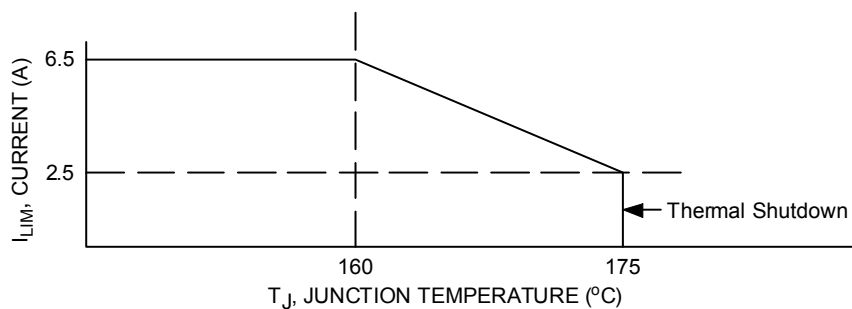
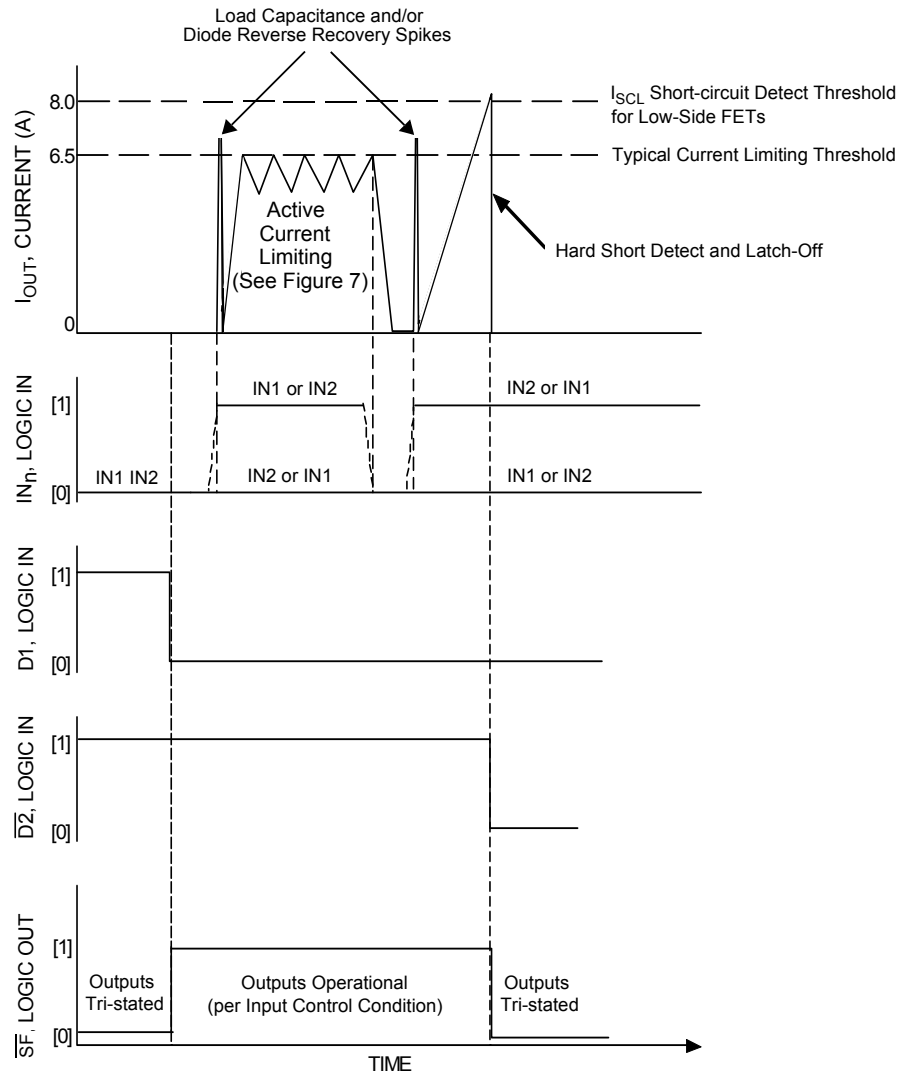

Figure 7. Active Current Limiting Versus Temperature (Typical)
Figure 8. Active Current Limiting Versus Time
26. Increasing currents will become limited at I_{LIM} . Hard shorts will breach the I_{SCH} or I_{SCL} limit, forcing the output into an immediate tri-state latch-OFF. See Figures 8 and 9, page 10. Active current limiting will cause junction temperatures to rise. A junction temperature above 160°C will cause the active current limiting to progressively “fold-back” (or decrease) to 2.5 A typical at 175°C where thermal latch-OFF will occur. See Figure 7, page 9.
The current limiting threshold value is dependent upon the device junction temperature. When $-40\text{ }^{\circ}\text{C} < T_J < 160\text{ }^{\circ}\text{C}$, I_{LIM} is between 5.2 A and 7.8 A. When T_J exceeds $160\text{ }^{\circ}\text{C}$, the I_{LIM} current decreases linearly down to 2.5 A typical at $175\text{ }^{\circ}\text{C}$. Above $175\text{ }^{\circ}\text{C}$ the device overtemperature circuit detects T_{LIM} and overtemperature shutdown occurs (see Figure 7, page 9). This feature allows the device to remain